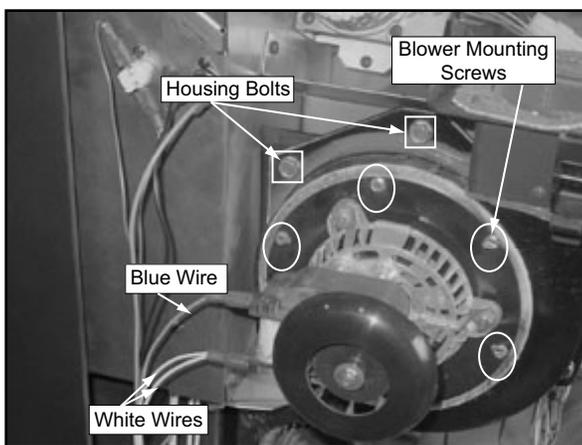

Figure 35.2
- e. Remove blower mounting screws (not housing bolts), **Figure 35.2**, from blower housing and remove blower. The replacement blower is shipped with a housing. If you do not need the housing, discard it. If you do need to replace the housing you will also need to replace the gasket. See Service Parts on **pages 44-45** for the part number.